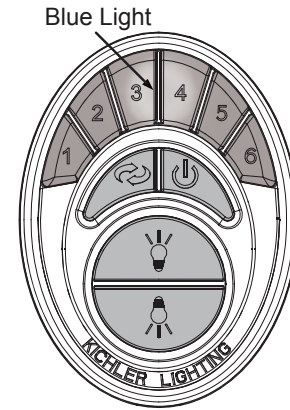

Fig. 23
2. Test the transmitter by pushing and releasing ANY button briefly. A Blue Light should illuminate under the 3-4 buttons. (Fig. 23) If not, check to make sure the batteries are inserted and seated correctly.